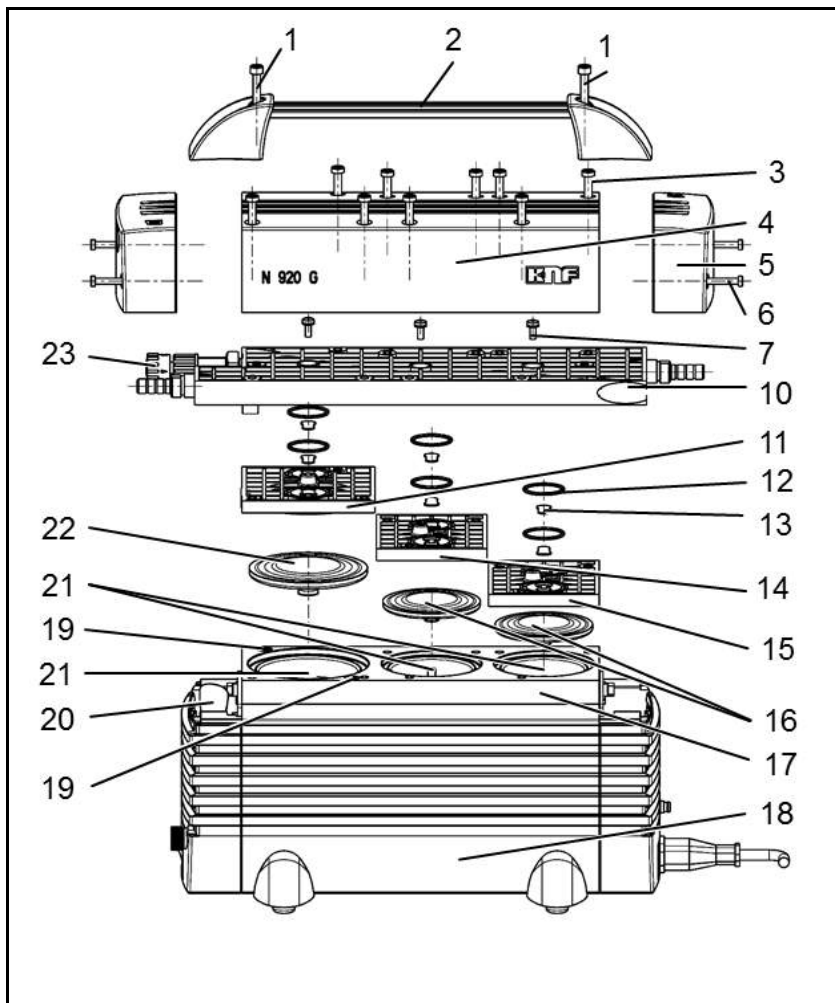

Fig. 8: Exploded drawing N 920 KT.29.18G
1. Undo both screws (1) of pump handhold (2); remove pump handhold (see fig. 8).
2. Undo the nine screws (3) of the head cover (4).
3. Undo two screws (6) each, and remove both covers (5) at head cover (4).
4. Lift the head cover (4) off the pump housing (18).
5. Lift off head plate (10) with intermediate plates (11), (14) and (15).